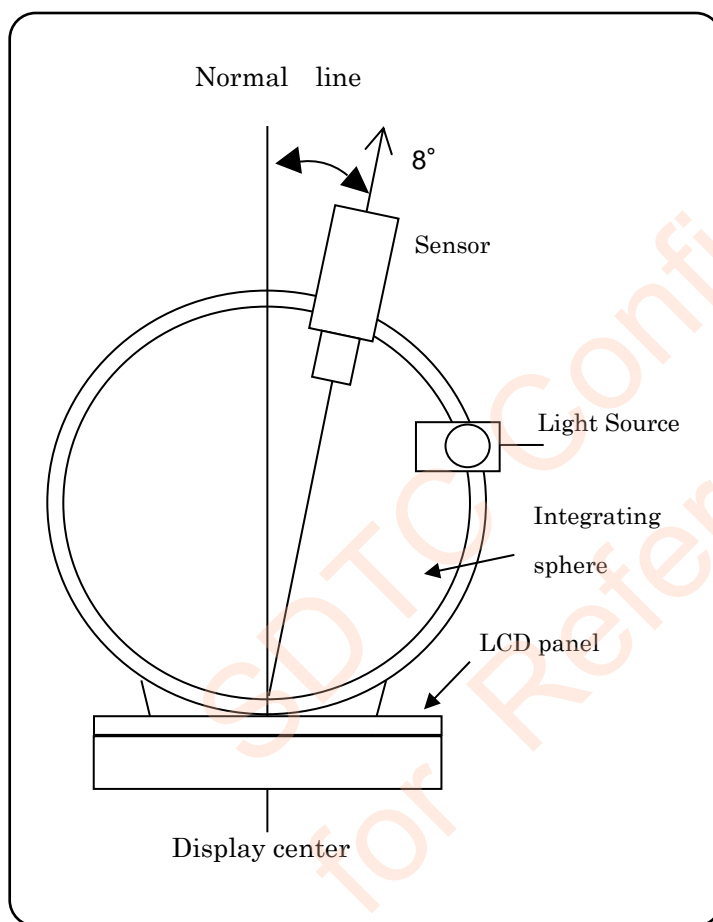
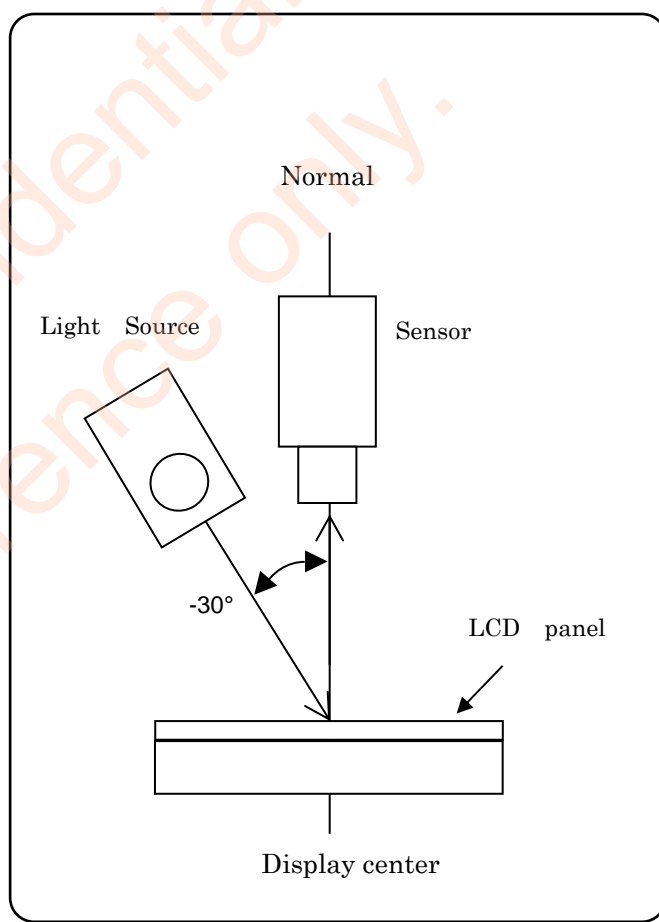

Figure 7-2 Contrast ratio, Reflection ratio,
Figure 7-3 Response time
- ・コントラスト比、反射率、パネル表面色度の測定は図7-2、応答速度の測定は図7-3の測定方法を用いて、
- ・Figure 7-2 is for contrast ratio, reflectivity ratio, and panel chromaticity measurement, and Figure 7-3 is for response time measurement. Both are to be conducted in a dark or room equipment to a dark room